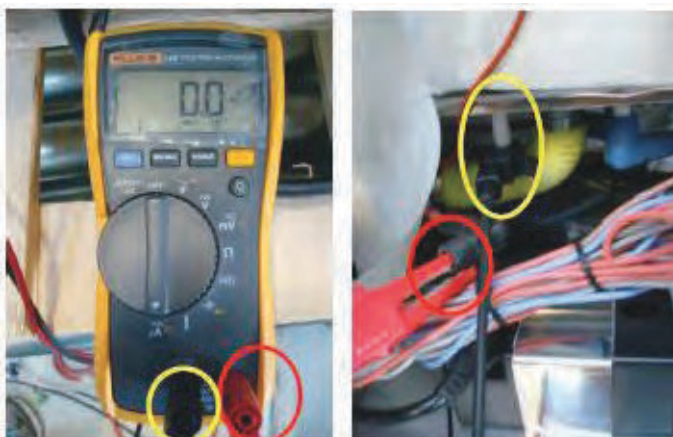

Figure 21
- Connect the multimeter in series as described above by means of the two cables with the crocodile clamp to one of the flame control electrodes and to one of the internal metallic part of the terminal of the cable, as shown in **Figure 21**;